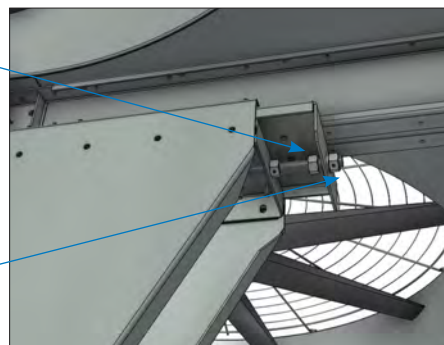

Figure 6. Dual Drive Adjustment
- **Dual Drive Adjustment:** For units ordered with a dual drive, the motor can be adjusted from both the inside or the outside of the unit. However, the lock nut on the inside of the unit must be loosened first in order to adjust the motor base (see **Figure 6**).